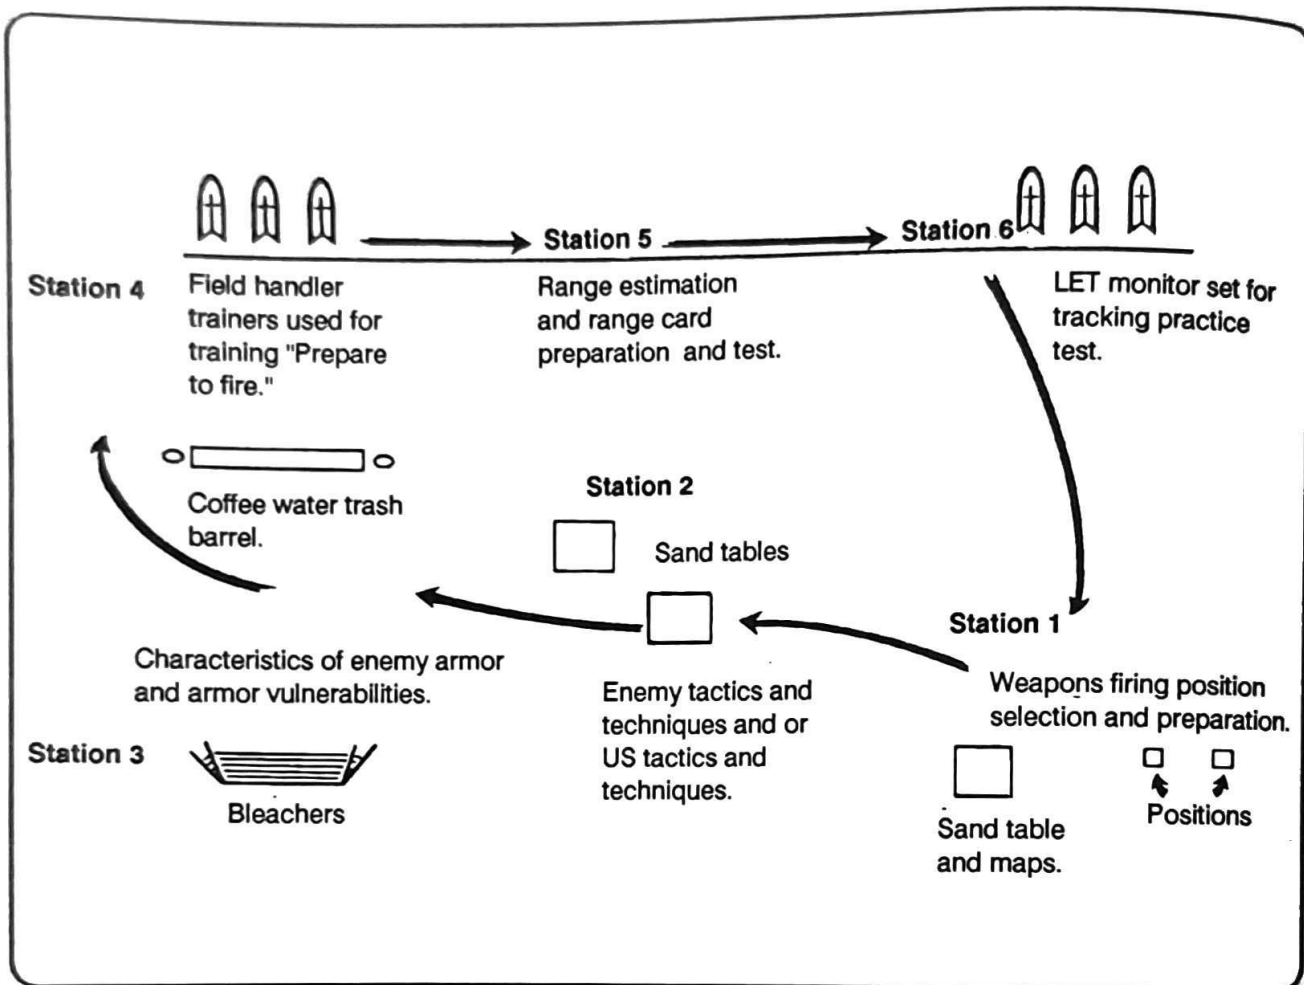

Figure 5-1. Example of round-robin.
(1) **Round-robin.** Because of the limited number of training sets in the battalion, all gunners cannot practice at the same time. Rather than have a few gunners practice on the training equipment while other soldiers watch, a round-robin setup could be used to keep all the soldiers engaged in productive, active training. The round-robin setup is a series of concurrent training stations through which each platoon member rotates. For example, Station Number 1 may be for the training equipment, Station Number 2 may require preparation of range cards, Station Number 3 may require identification of enemy tanks through the use of flip charts (Figure 5-1).